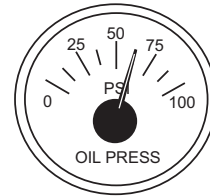

Figure 51. Oil Pressure Gauge
7. The engine oil pressure gauge (Figure 51) will indicate the oil pressure of the engine. Under normal operating conditions the oil pressure should be approximately 44 psi (300 kPa). When starting the generator the oil pressure may read a little higher, but after the engine warms up the oil pressure should return to the normal pressure range.